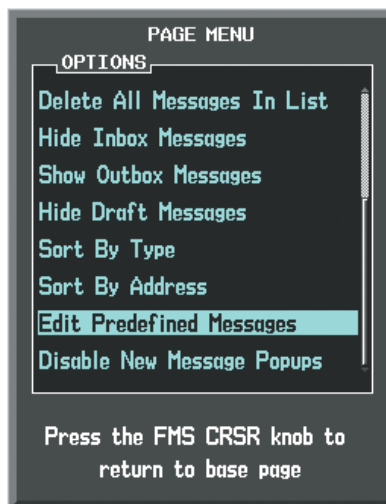

Figure 8-91 Creating/Editing Predefined Messages
- 2) Turn either **FMS** Knob to select 'Edit Predefined Messages' as shown in Figure 8-91.